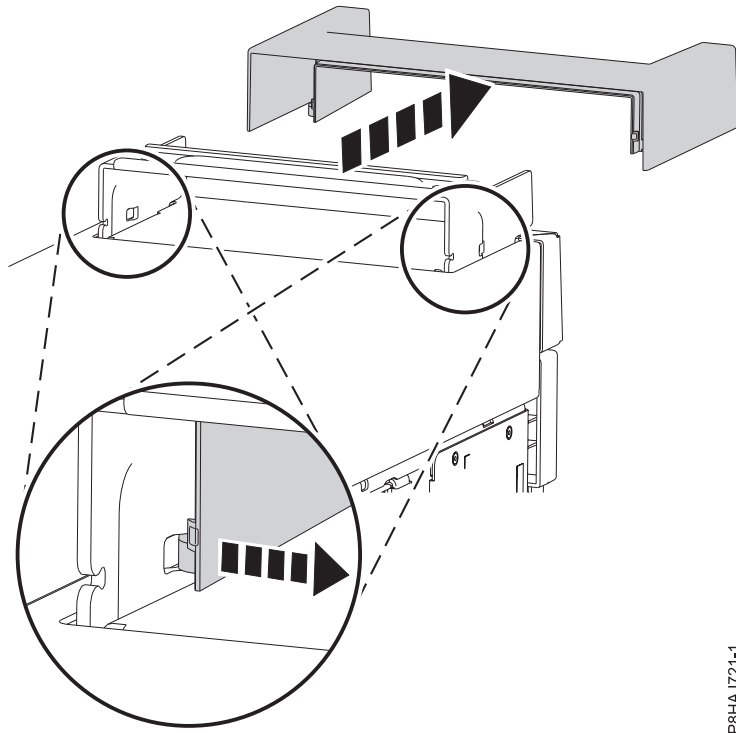

Figure 26. Removing the handle cover from an 8286-41A stand-alone system
3. Remove the handle cover by sliding it toward the front of the system then lifting upwards. See Figure 26 on page 45.